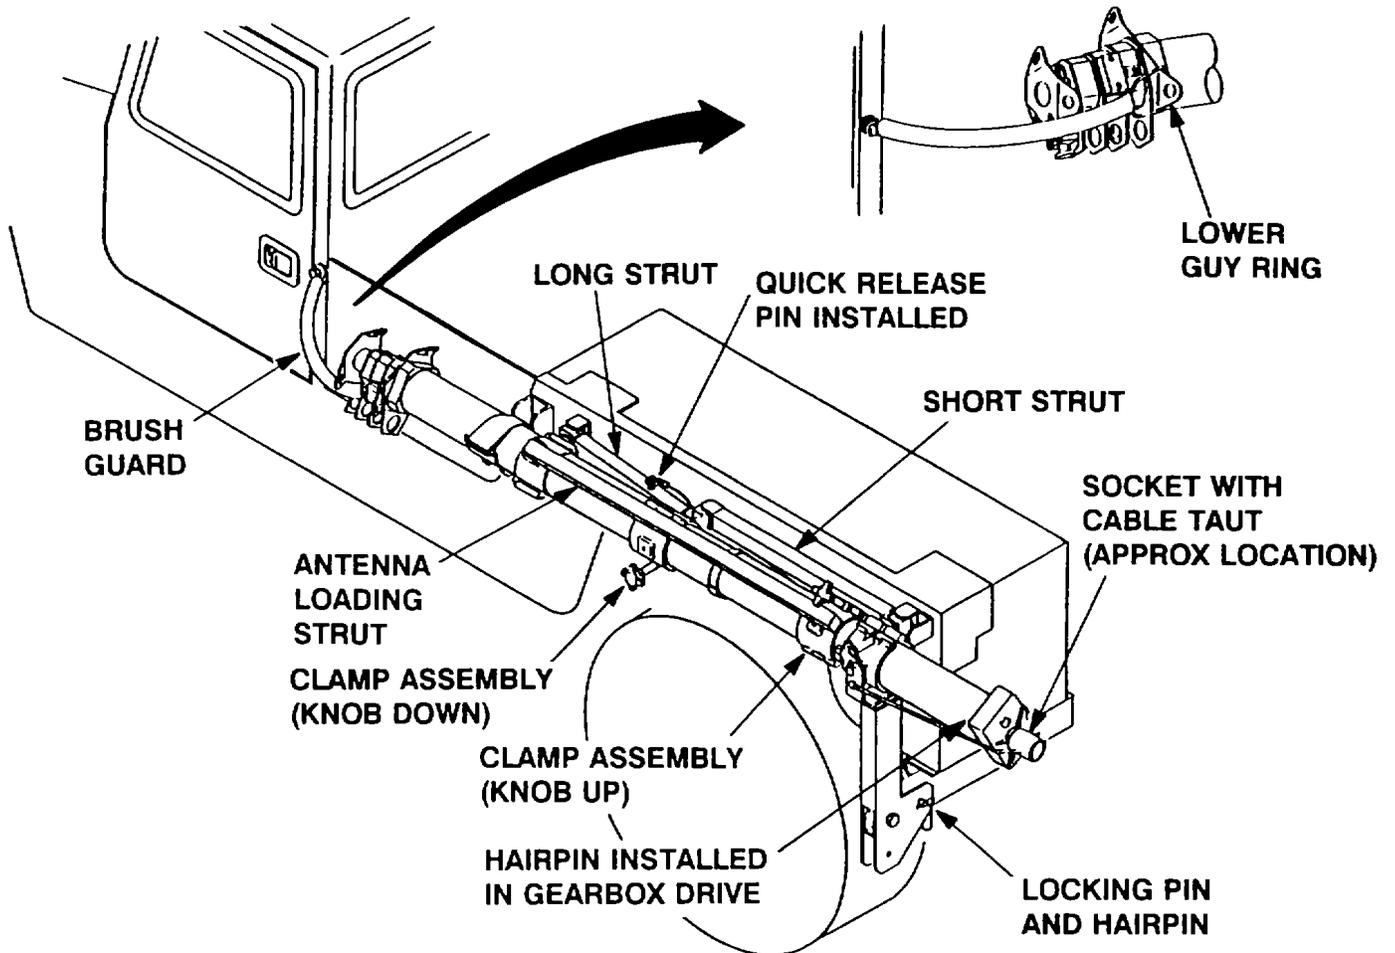

Figure 2-5. Final Orientation of Struts and Clamps
b. Clamp assemblies.	Check that all clamps have been installed properly. See Figure 2-5 for proper position of the clamp assembly knobs